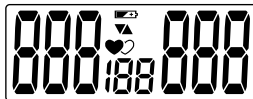
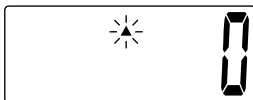

Fig.12
Fig.13
3. All symbols will appear on the display screen for a short time, two short sound signals will be given (fig. 12). After the signal, the screen shows "0" and marker "▲" starts blinking. It means that the device is ready for measurement (fig. 13).